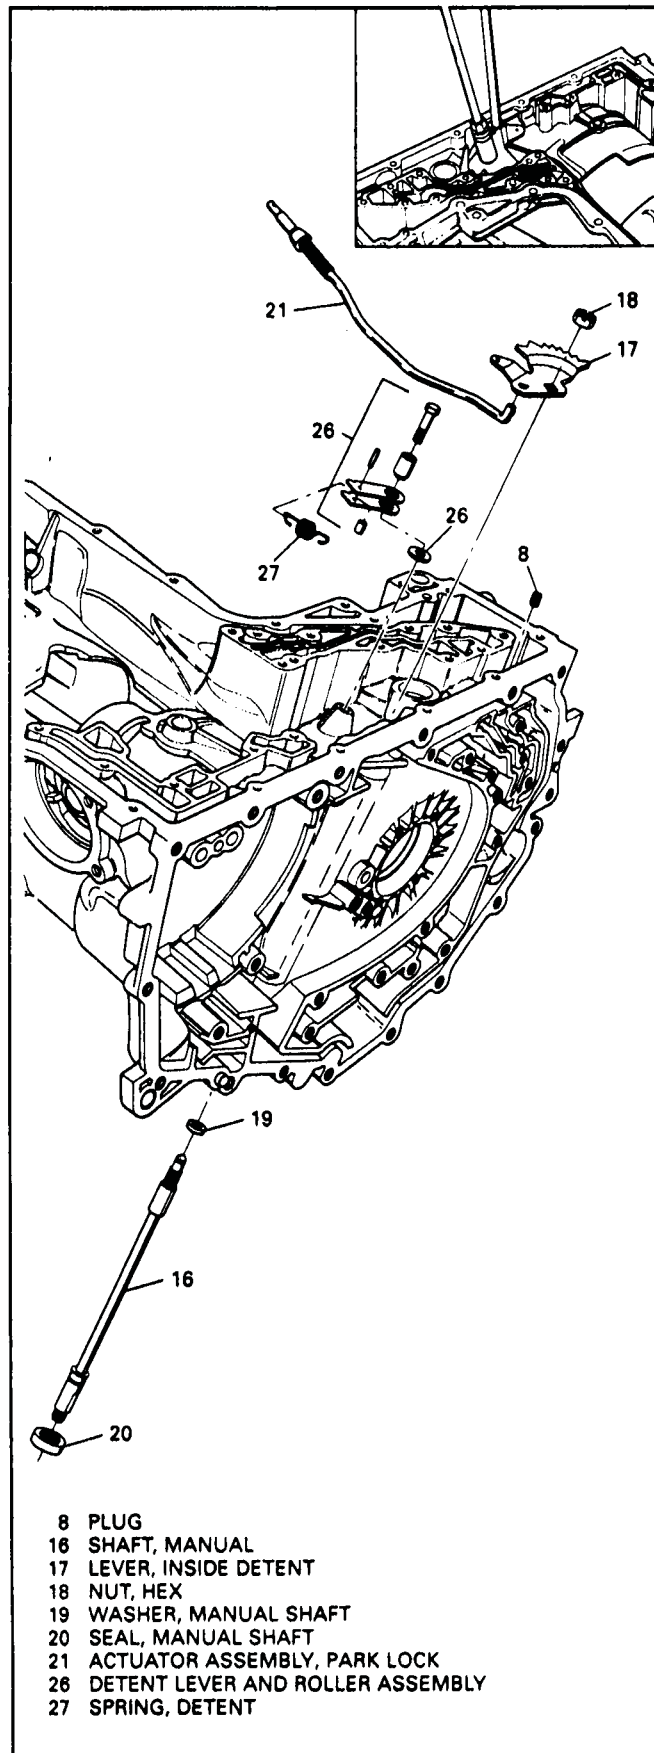

Figure 92
3. Install washer (19) over manual shaft and into the case (See Figure 92).
6. Install the inside detent lever, the actuator rod and nut to manual shaft. Hold detent lever with a screwdriver as shown in Figure 92, to prevent any damage or bending of actuator rod.
7. Torque the nut on manual shaft to 20-25 ft.lbs, while holding as shown in Figure 92.
10. Install detent return spring to detent roller assembly and manual shaft, as shown in Figure 92.